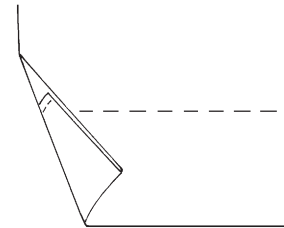
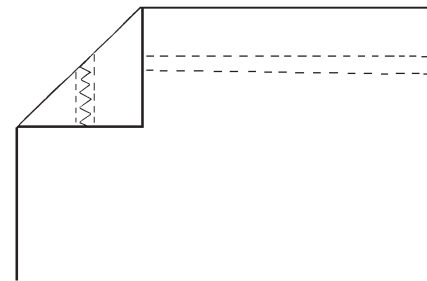

Fig. 13-11
Fig. 13-12
- ❑ **Machine stitch.** From the right side, topstitch the hem in place within the hem allowance. Use matching or contrasting thread and a straight, zigzag, or decorative stitch. (Fig. 13-11) As an alternative, use a double needle in the machine and topstitch the hem in place with the straight stitch. (Fig. 13-12)